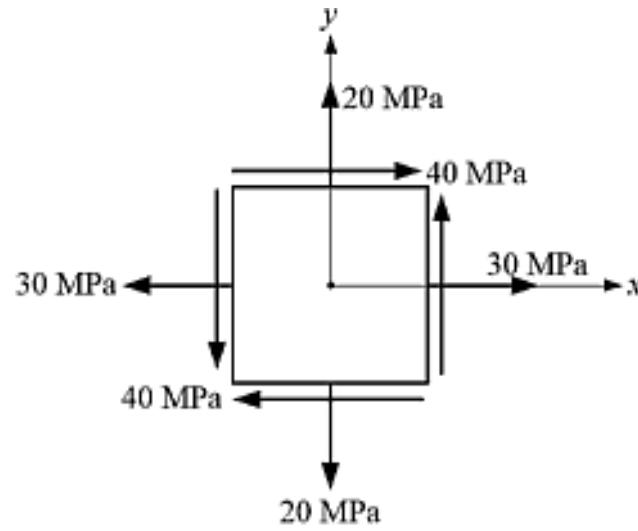

Fig. 6
5. (a) The state of stress at a point in a body is shown on an infinitesimal rectangular element considered around the point as depicted in the figure in (x, y) coordinate system in Fig. 6. Determine the normal, and shear stresses acting on a plane, the normal to which makes an angle of  $40^\circ$  with the x-axis. Solve the problem using transformation relations.